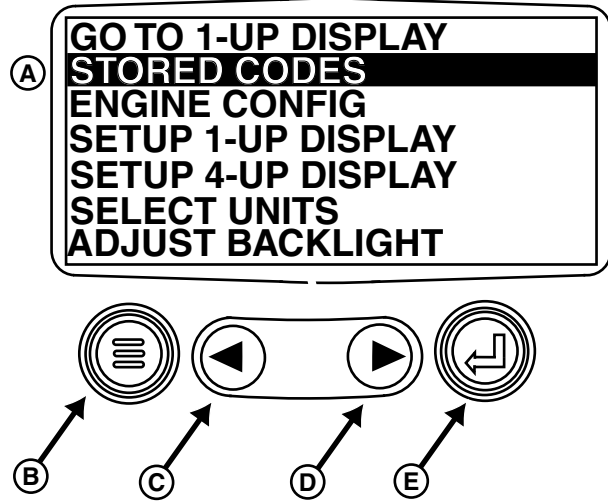

Figure 1. Main Menu
1. Press MENU KEY (B). Main menu is displayed. See figure 1.
2. Using the SCROLL KEYS (C,D), navigate the menu until STORED CODES (A) is highlighted. Press the ENTER KEY (E).